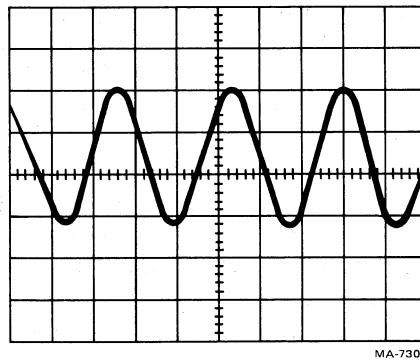

Figure 6-35 Normal Read Head Output While Writing
- i. Look at the compensation capacitors again; this time while writing (MIA switch S2 right). You should see a sinusoidal waveform similar to the one shown in Figure 6-35.